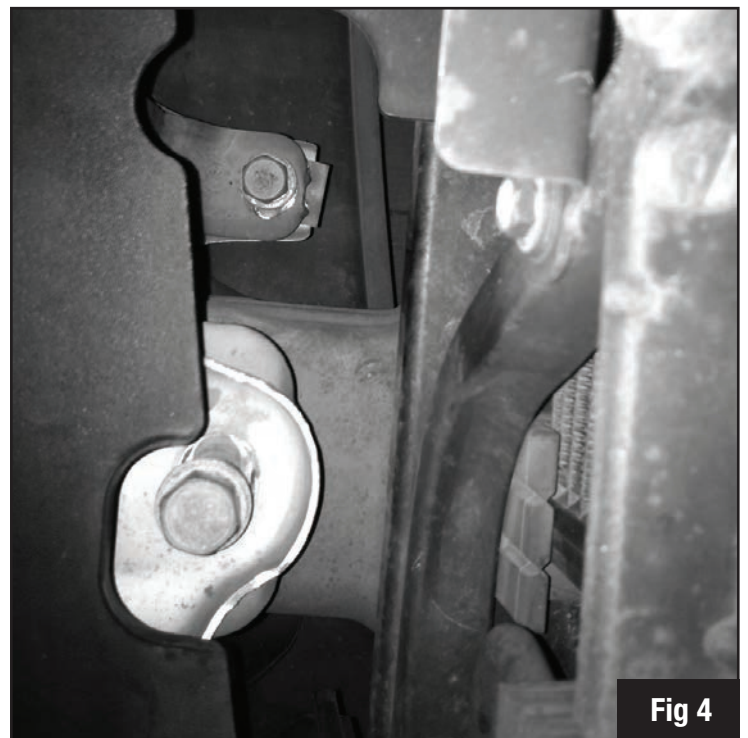

Fig 4
**7)** Remove (4) bolts holding bumper on to frame. Bolts are located behind bumper directly below where the grill was *Fig 4*.